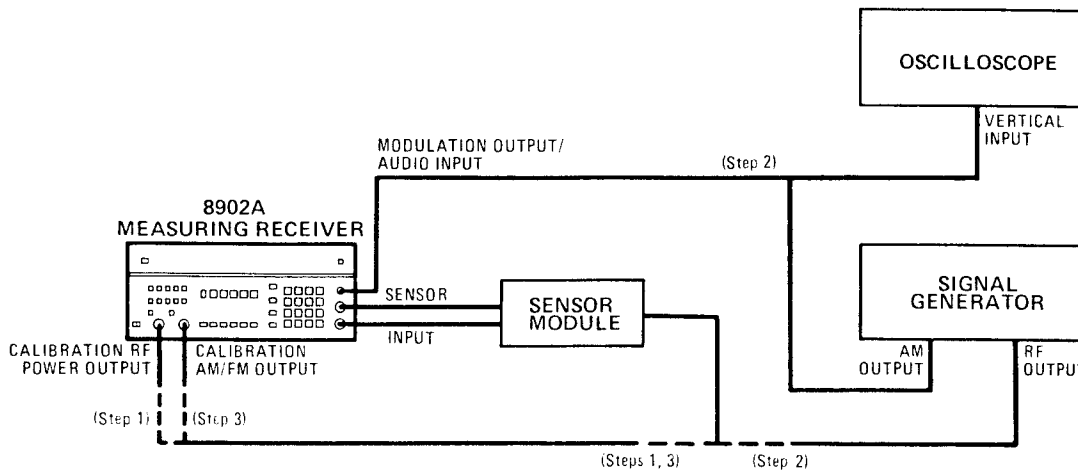

Figure 3-3. Basic Functional Checks Setup
3. Connect the CALIBRATION RF POWER OUTPUT to the sensor module input. (Step 1 of Figure 3-3.)
9. Connect the RF output of the signal generator to the input of the sensor module, and MODULATION OUTPUT/AUDIO INPUT to the vertical input of the oscilloscope and to the AM output of the signal generator using a BNC tee. (Step 2 of Figure 3-3) (Note: The connection from the MODULATION OUTPUT/AUDIO INPUT to both the oscilloscope and the signal generator could cause a loading problem if the signal generator is not as suggested. Make these connections only when required if this is a problem.)